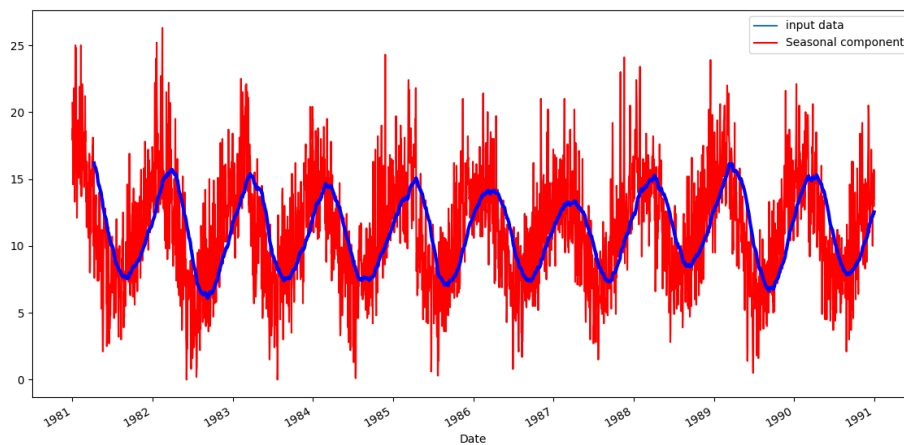

Figure 16: Seasonal component of the first dataset by Moving Average.
- (f) *Moving Average window (Figure 16 and 17)*